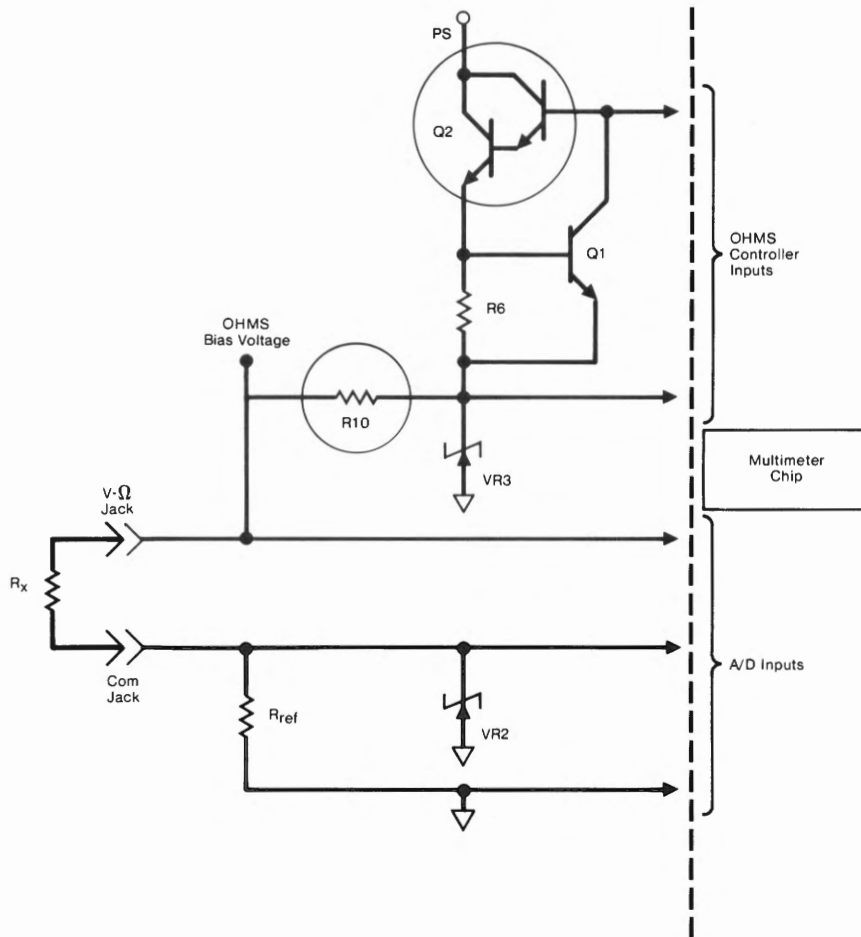

Figure 2-3. Circuit for Resistance Measurements
Resistance measurements are made using a ratio technique where the unknown resistance is compared against an internal standard. The unknown resistance is connected in series with a selected reference resistor to a bias voltage (approximately 400mV) generated by the multiprocessor chip, Figure 2-3.
2.4.4 DIODE MEASUREMENTS (Figure 2-3)